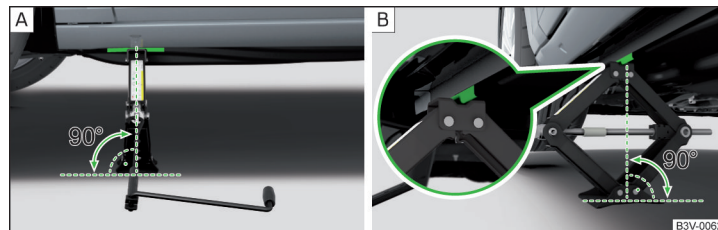

Fig. 336 Attach lifting jack
- › Support the base plate of the jack with its full area resting on level ground and ensure that the jack is located in a vertical position at the jacking point » Fig. 336 - [A].
- › Use the crank to raise the jack until its claw encloses the bar » Fig. 336 - [B].